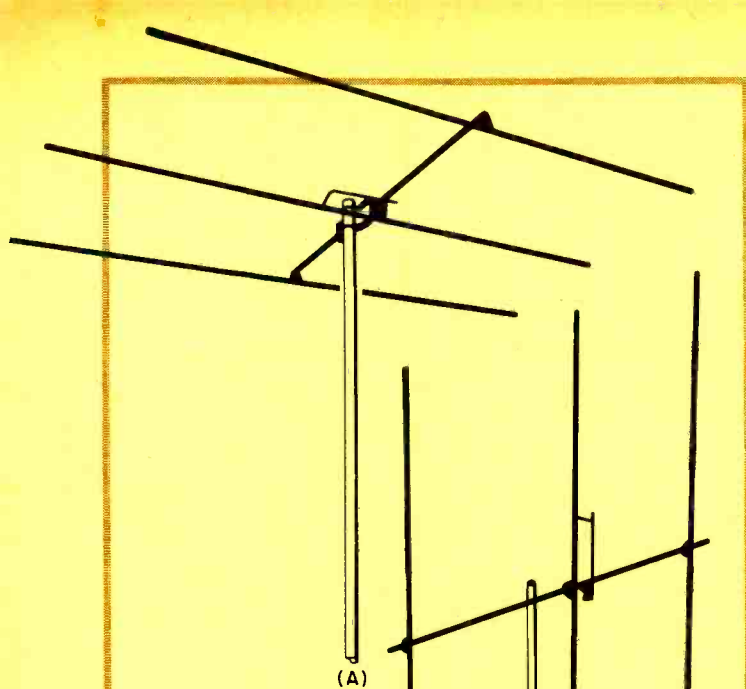
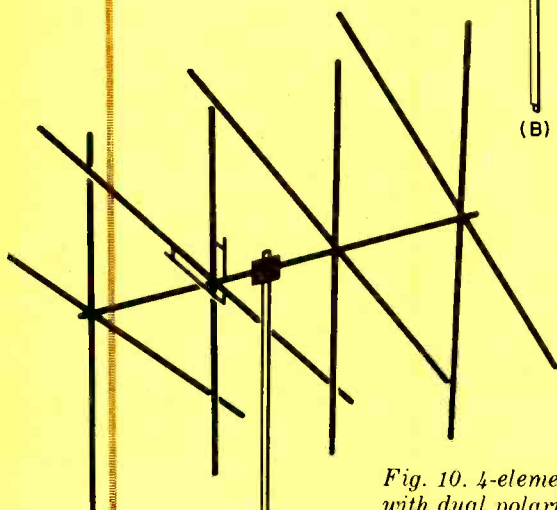

Fig. 9. A Yagi beam can be mounted for horizontal (A) or vertical (B) polarization.
Fig. 10. 4-element Yagi with dual polarization.
A typical three-element beam is shown in Fig. 9. When the beam is mounted at right angles to its vertical mast, as in (A), the antenna is horizontally polarized. When it is mounted as in (B), it is vertically polarized.
It is possible to mount two Yagi beams on the same "boom" to provide switchable polarization (Fig. 10). In this case, separate feedlines would have to be run down to the transceiver, with a coaxial switch to select the desired polarization. But it is also possible, through the use of a coaxial phasing harness, to feed both beams simultaneously and radiate signals polarized in the two planes. Each beam accepts half of the total output power, which means that 3 dB of gain is lost in each plane. The advantage of this system is that both horizontally and vertically
Next, work the cable down the side of the seat. Remove the carpet retaining plate and run the cable under it (Fig. 9). Replace the plate, taking care to keep the cable away from the retaining screws. Pull out the kick panel and slip the coax behind it, feeding it up and under the dash (Fig. 10). Finally, plug the cable's coaxial connector into the antenna jack on the back of the transceiver. Under no circumstances should you trim the coax. It is "tuned" for the specific length to present a proper impedance.